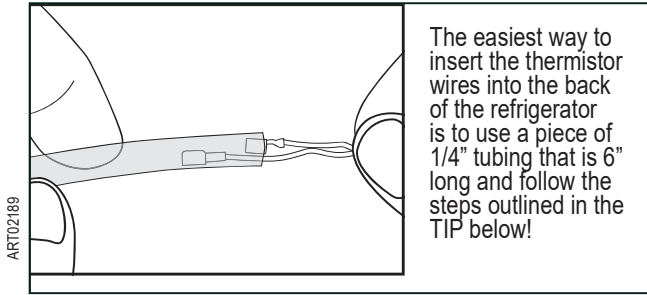

Fig. 6 Insert thermistor wires into 6" long 1/4" tubing
- Insert thermistor wires into a 6" long piece of 1/4" tubing as shown in Fig. 6.